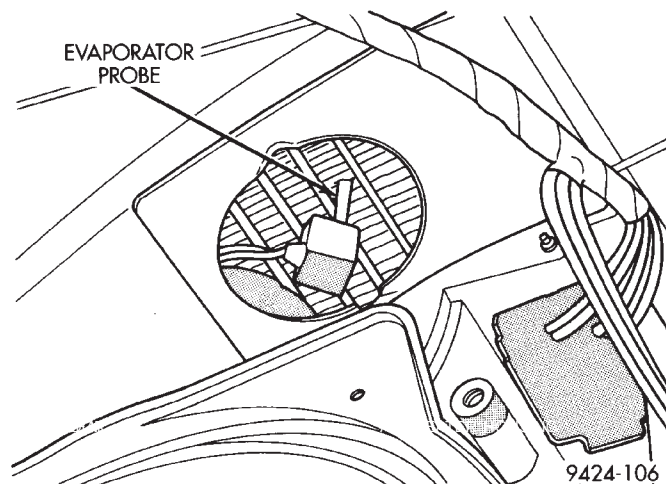

**Fig. 68 Evaporator Probe**
(14) Pull the evaporator probe needle out of the evaporator fins (Fig. 68). Remove the evaporator probe through the opening at the blower motor housing.